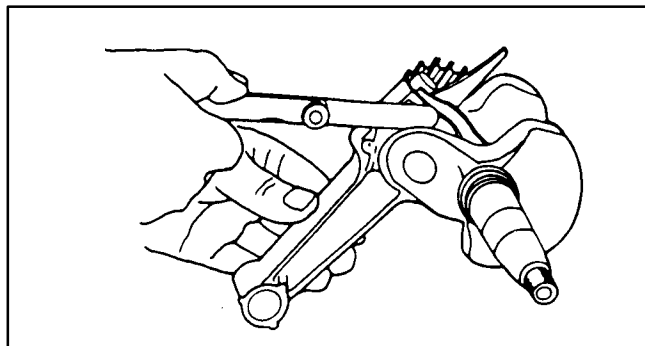

FIGURE 10-31. SIDE CLEARANCE OF CONNECTING ROD ON CRANK PIN
2. Measure the side clearance with a feeler gauge (Figure 10-31).